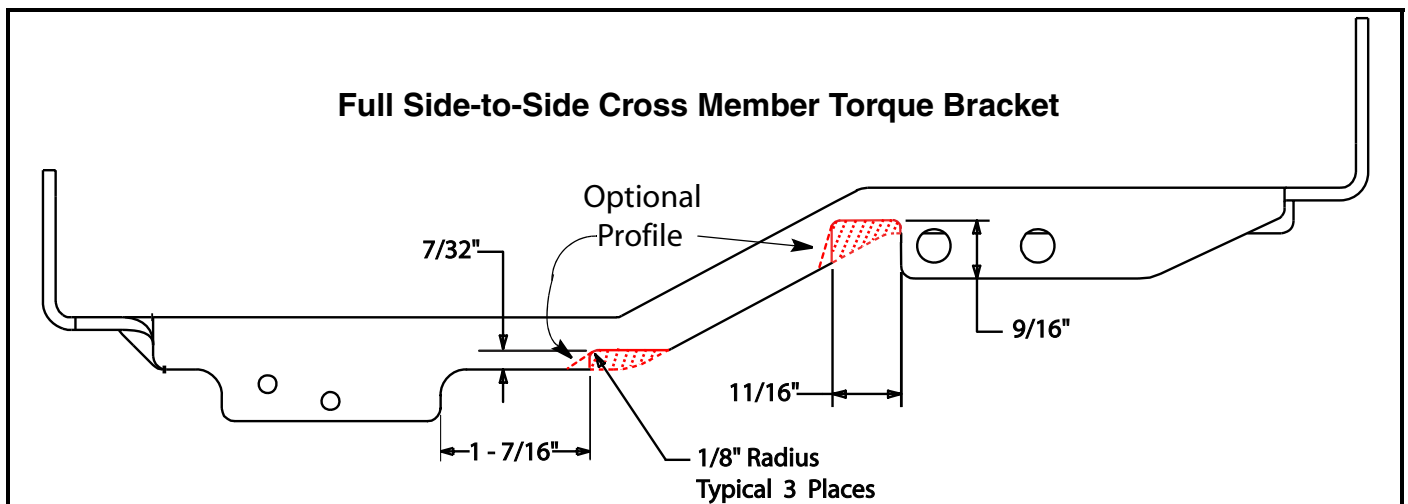

FIGURE 3
1. With the transmission removed from the lawn tractor, mark the cross member as shown in red in Figure 3.
2. Using a 4-1/2" hand held angle grinder with a 4" abrasive cutoff disk, remove the torque bracket material shown in red in Figure 3. Remove the material slowly so as not to over heat the part.